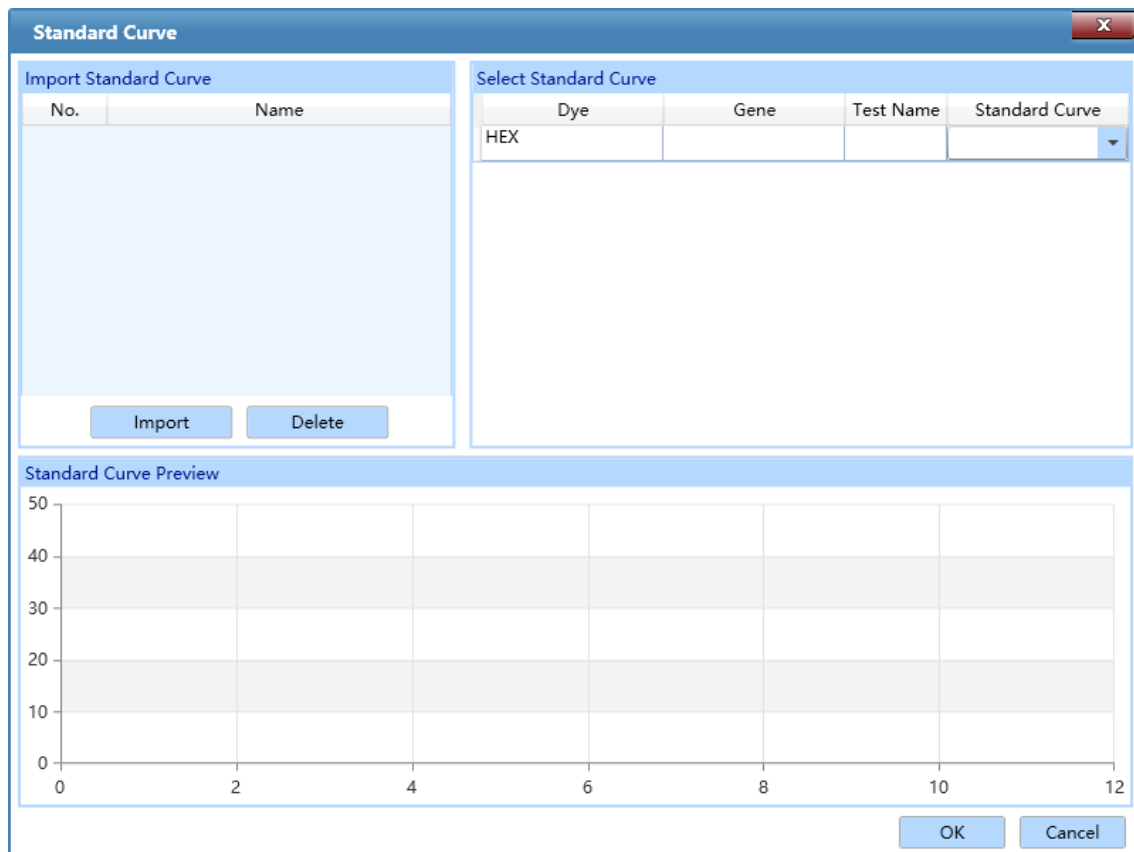

Figure D- 9.2a. Abs Quant Analysis Interface - Standard Curve Window
- **< Load Std Curve >**: click **< Load Std Curve >** and the application software will automatically pop up the standard curve window, which consists of **Import Standard Curve**, **Select Standard Curve** and **Standard Curve Preview** three parts, as shown in figure D-9.2a.